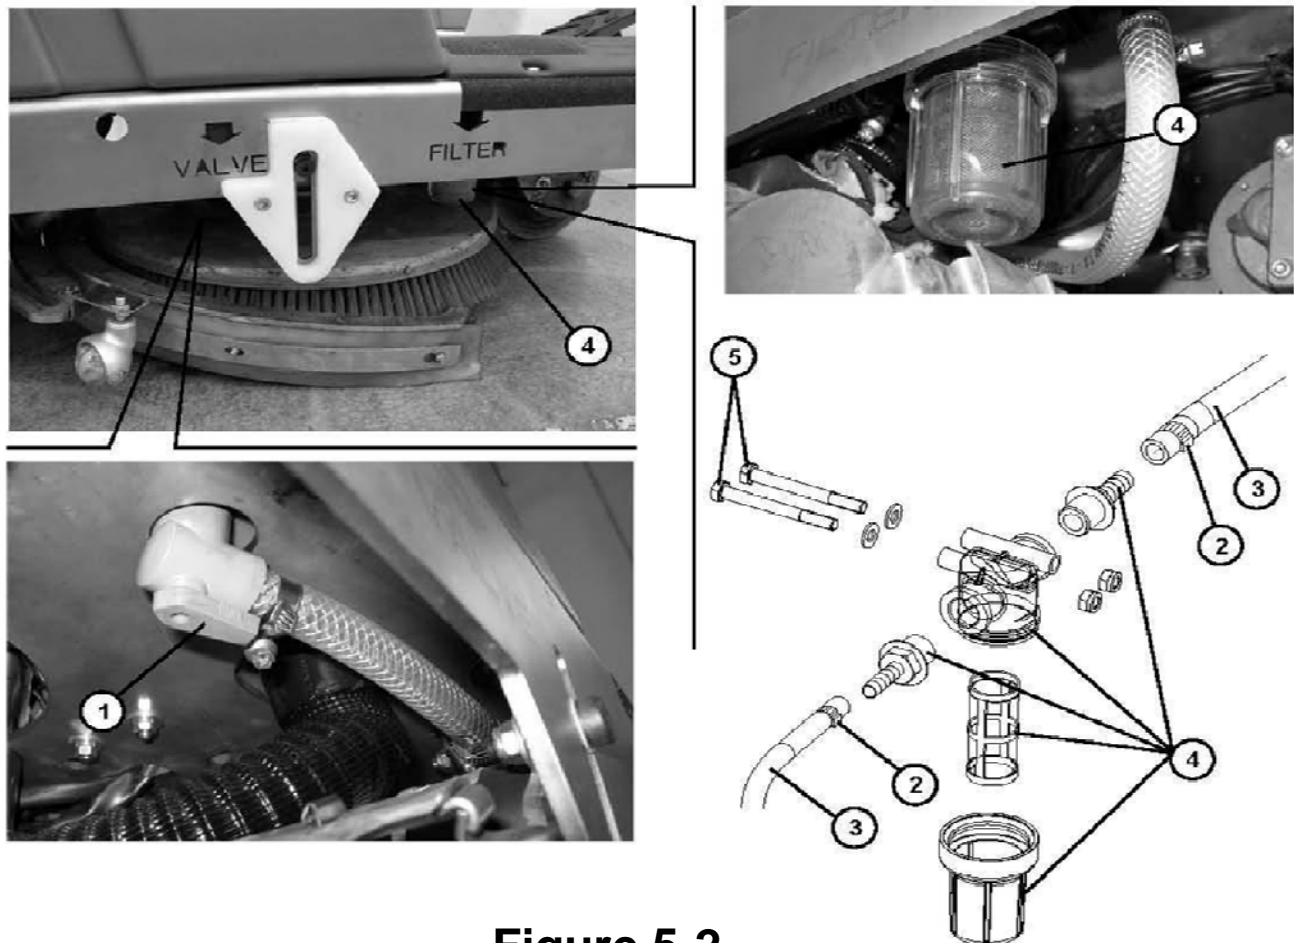

Figure 5-2
3. Operating on the right side of the machine, close the tap (1, **Figure 5-2**) for the detergent solution flow (or washing water).
4. Loosen the straps (2) and disconnect the pipes (3) from the filter unit (4).
5. Unscrew the screws with nut (5).
6. Remove the filter unit (4).
7. If necessary break the filter unit (4).